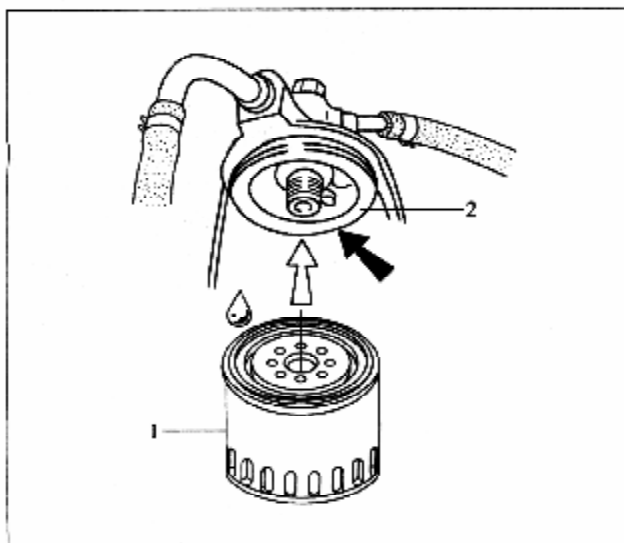

Fig.5-5 Installing fuel filter element
- (1) Ensure screw connector is fixed tightly on filter base, also ensure base interior is clean.
- (2) Lubricate slightly element sealing ring in a new filter with clean fuel (figure 5-5). Screw filter can onto filter base till resistance is felt.